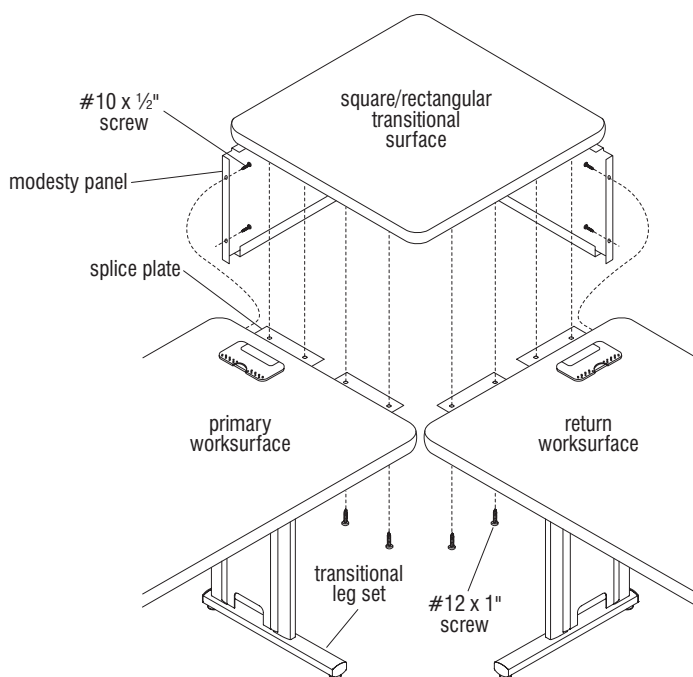

Figure 3
5. Position the primary and return work surfaces as illustrated, set the square or rectangular transitional surface onto the splice plates, and attach the transitional surface to the splice plates with eight #12 x 1" screws, two per splice plate from underneath (Figure 3).
6. Align the modesty panel mounting holes of the transitional surface to the transitional leg sets of the primary and return worksurfaces, then secure together using two #10 x 1/2" screws per modesty panel and leg set (Figure 3).